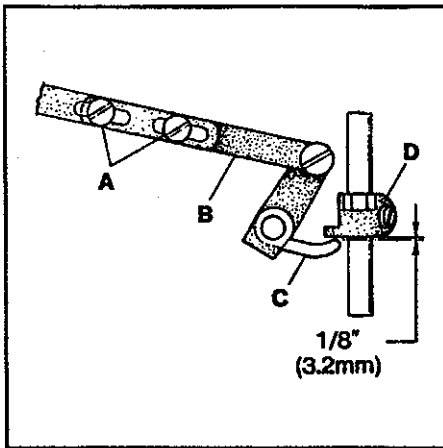

FIG. 21
Replace the presser spring and the presser bar regulating screw. Loosen screws (A, Fig. 21) in lifter lever link assembly (B) and position lever (C) so there is $1/32$ " (0.8mm) clearance between it and presser bar guide (D) when the feed dogs are below the throat plate.
NOTE: Make sure the $1/32"$ (0.8mm) clearance between the presser bar lifter lever and presser bar guide has been maintained. Refer to Fig. 21 if readjustment is necessary.